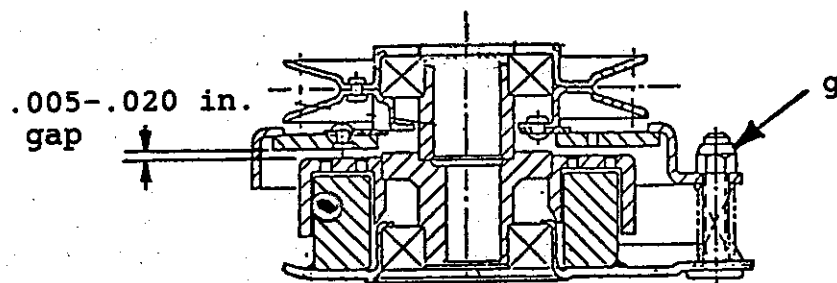

Fig. 9 Electric Clutch Adjustment
- c. Locate the three "windows" or "notches" where the air gap is checked (see Figure 9.)